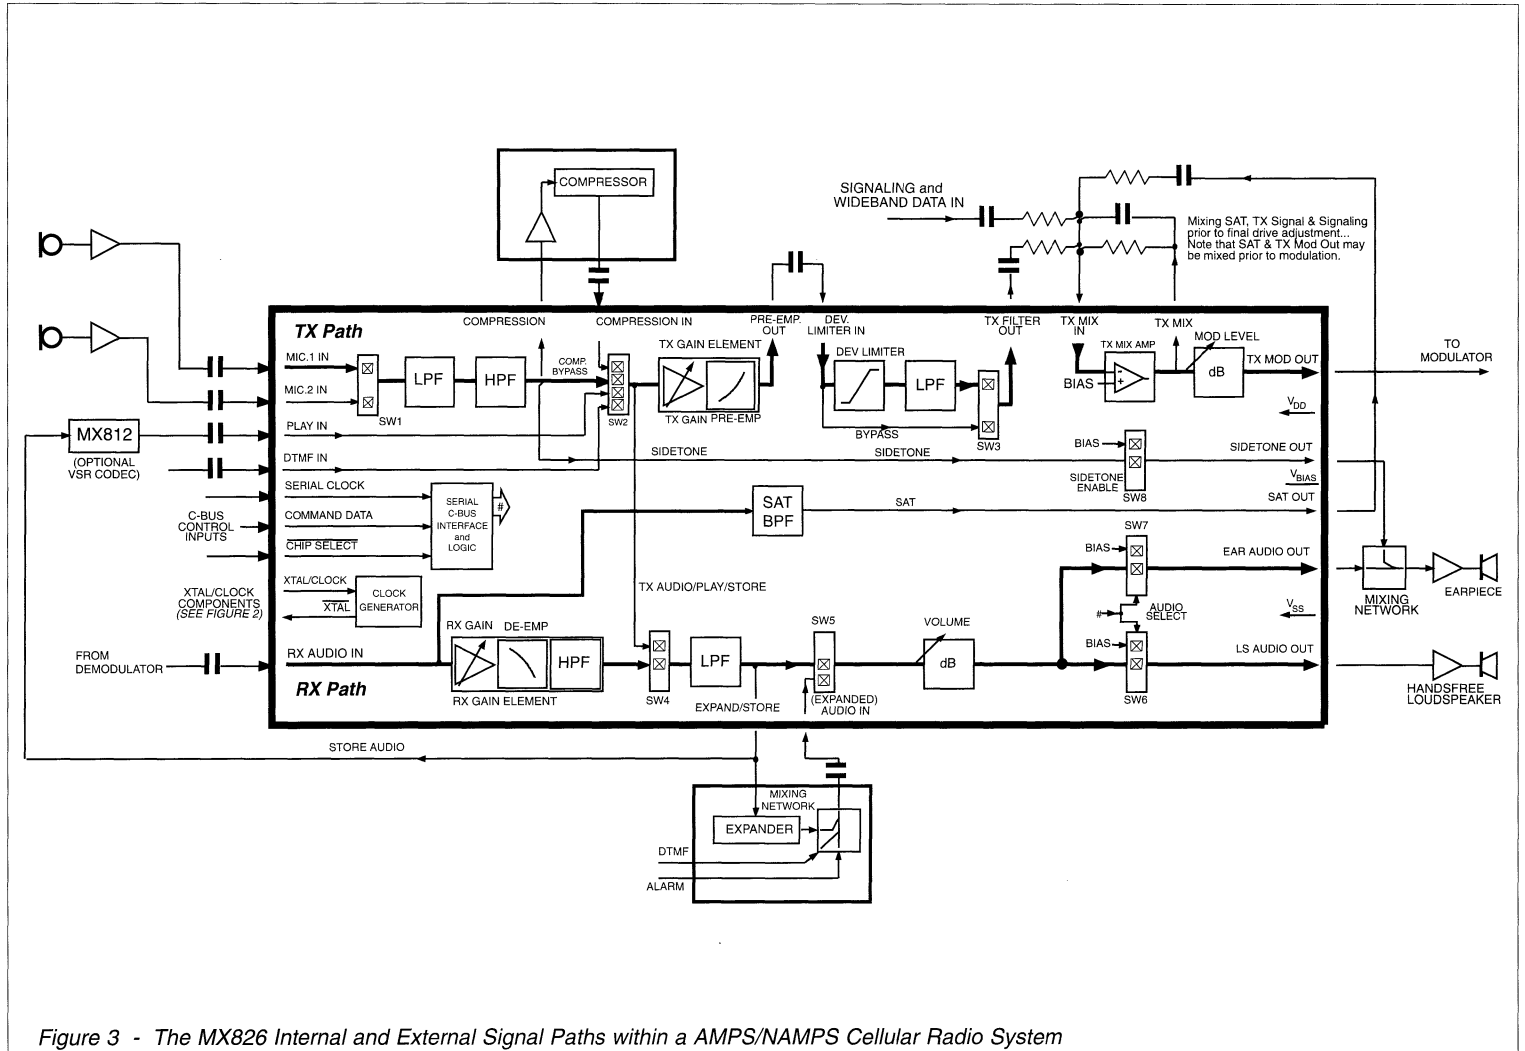

Figure 3 - The MX826 Internal and External Signal Paths within a AMPS/NAMPS Cellular Radio System
1. With reference to the Powersave Command and Figure 3, all functions with the exception of the RX Gain Element may be powersaved. This will still allow signaling data through the MX816 to activate the system via the μ Processor.
11	LS Audio Out: An audio output of the Rx path (or selected audios, see Figure 3) for a loudspeaker system. This is available for handsfree operation. This output can be connected to V_{BIAS} when not required, by SW6 (Configuration Command (10_H)). A driver amplifier may be required.
13	Sidetone: A switched "sidetone" from the microphone inputs made available for mixing externally with the "Ear" audio. See Figure 3.
16	SAT Out: The output of the SAT Bandpass filter. This level is recovered from the input RX audio and is available for mixing externally with the transmitter modulation. See Figure 3.
18	TX Filter Out: The output of the Deviation Limiter/Lowpass Filter stage. This stage can be by-passed using SW3 (Configuration Command). See Figure 3.